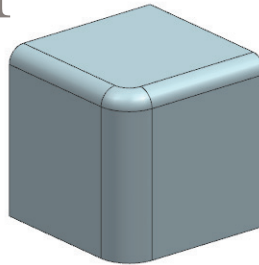
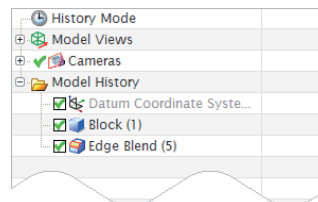

Fig 6-13 Edge Blend to Create
Fig 6-19 Part Navigator
10. Press **OK** in the dialog box. The edge blend is created as shown in Fig 6-13. Only one edge blend feature is recorded in the **Part Navigator** as shown in Fig 6-19.